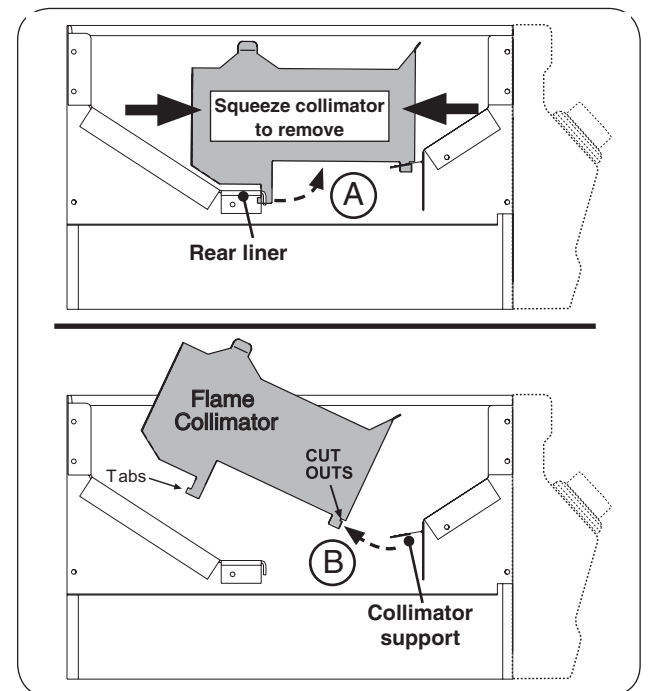

Fig. 34-3 Flame collimator removal
2. Squeeze the collimator to detach the rear tab from the rear liner as shown in Fig. 34-3, A, and lift up the rear portion of the collimator.
3. Detach the collimator from the front collimator support and completely remove the collimator as shown in Fig. 34-3, B.